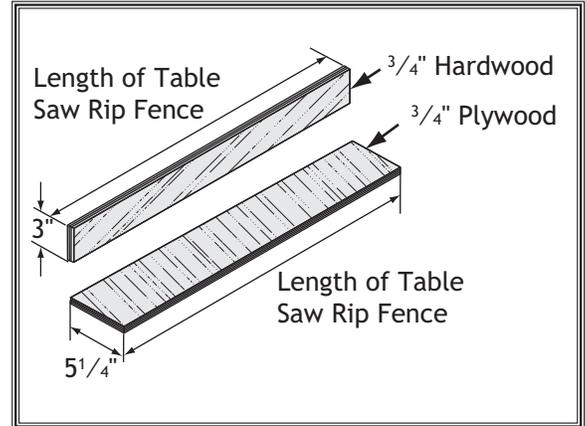

Figure 90. Auxiliary fence dimension.
1. Cut a piece of $\frac{3}{4}$ " thick plywood $5\frac{1}{4}$ " wide and as long as your table saw fence; cut a piece of $\frac{3}{4}$ " thick hardwood 3" wide and as long as your table saw fence, as shown in **Figure 90**.